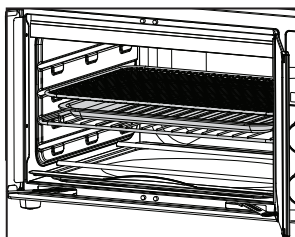

Figure 5: Wire/Broil Rack Positioning
- The oven has three rack positions to accommodate a wide variety of foods. The Wire/Broil and Mesh Air Fry racks can be inserted in the oven's top, middle, or lower rack guide rails. (See Figures 5 and 6)